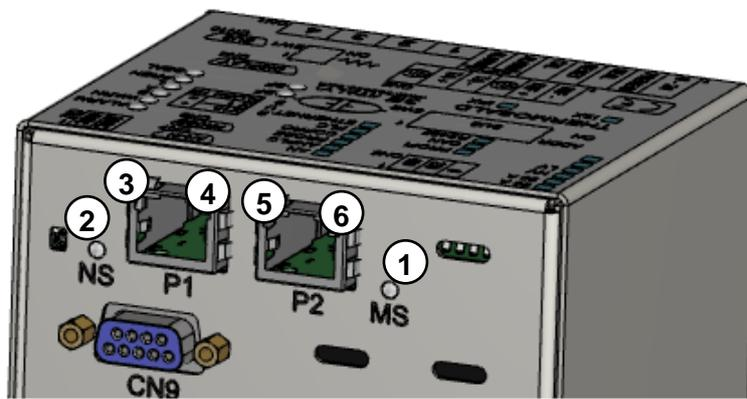

Figure 21 – Ethernet Switch models *AB B40*
6.3.3.2 Models AB B40 (see 6.2.8, Figure 21)
6.3.4.2 Models AB B40 (see 6.2.8, Figure 21)